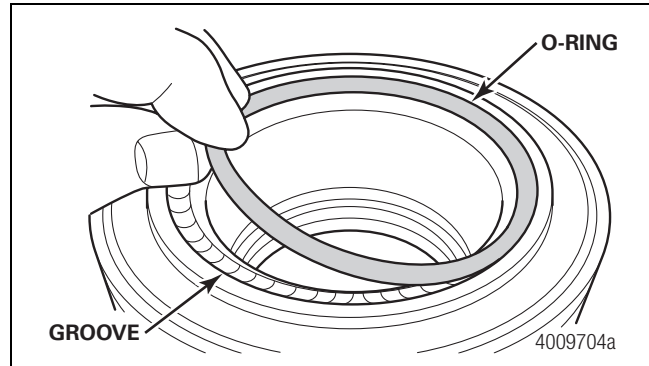
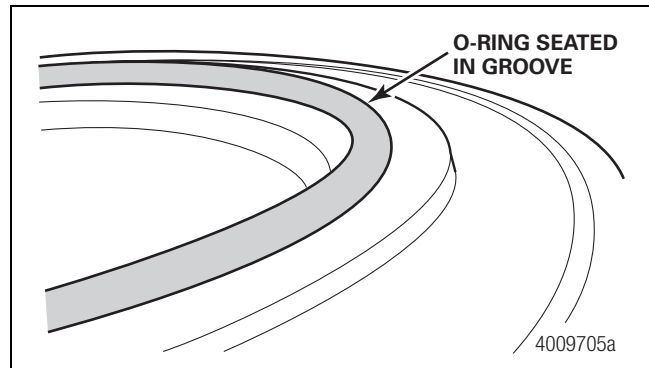

Figure 14
Figure 15
- If the O-ring is missing or comes loose during handling: Reinstall the O-ring on the hub. Hold the O-ring firm in one location in the machined groove. Using your fingers, lightly guide the O-ring around the groove until it is completely seated. Figure 14 and Figure 15.